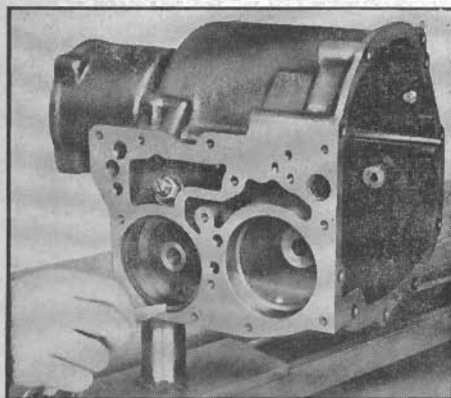

Fig. 53 Checking servo piston ring gap. 1950-59
4. Remove piston ring from reverse and low servo pistons and install in piston bore. Check ring gap which should be .005-.010", Fig. 53.
3. Remove piston ring and install in low piston bore. Check ring gap which should be .005-.010", Fig. 53.